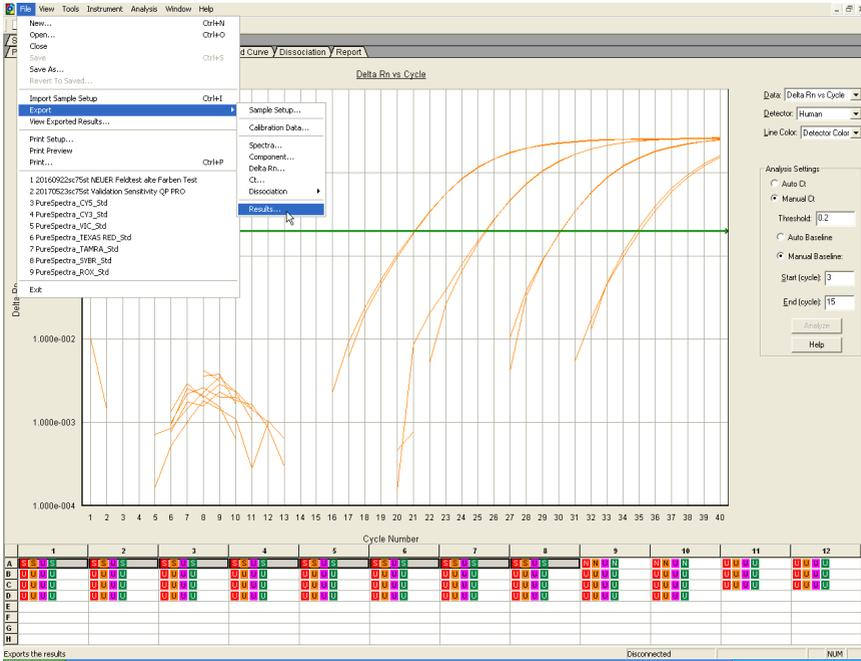

Figure 42. Exporting results.
- To export and save the results report, go to **File**, followed by **Export** and then **Results**. The analysis settings must be saved first, then the results may be saved in the format **Results Export Files *.csv** (Figure 42).